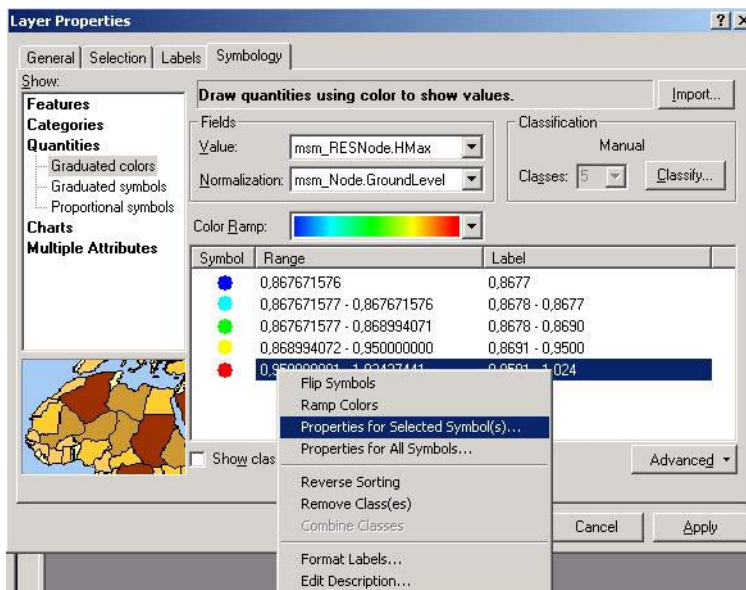

Figure 23.18 Changing the symbol for the selected symbols
- Right-click on the symbol for the top group and choose 'Properties for the Selected Symbol(s)', see Figure 23.18